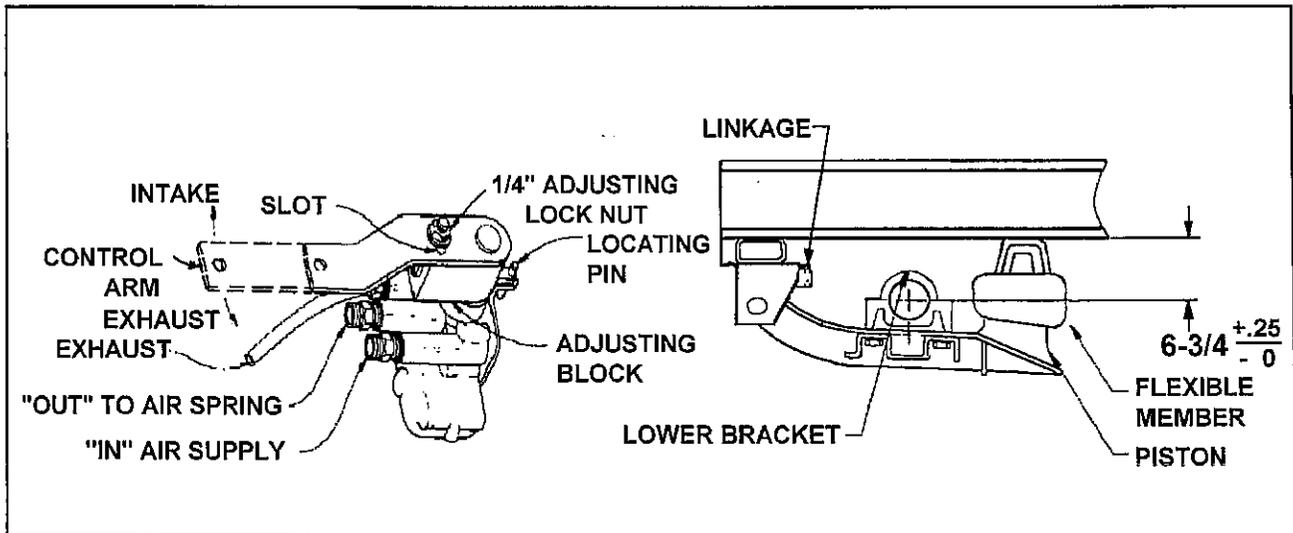

Figure 4-2 Air Ride Height Adjustment
4-6.1 Air Ride Height Adjustment. (See Figure 4-2 for parts identification).
e. Move the control arms to the "down" position (about 45°) for 10-15 seconds. Slowly return the control arms to the center position and insert locating pins into the adjusting block and bracket on the automatic height control valves (See Figure 4-2).